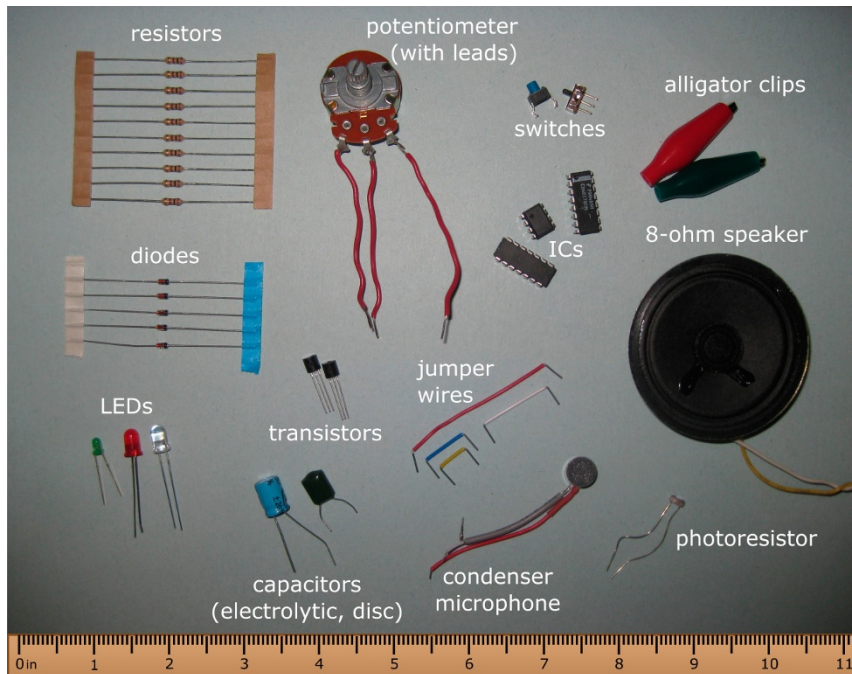

Figure 2-6: A sampling of the electronic components used in the experiments and projects in this book.
In the list that follows, I sometimes specify a product code (identified by #) and price (as of this writing, in mid-2015). I do this just to give you an idea of what to look for and roughly how much you should expect to pay. Because multiple options are usually available, feel free to shop around. Here's your shopping list of electronic parts, most of which are shown in Figure 2-6:
- ✓ **Attach leads to the potentiometers.** This step involves cutting three short lengths (2–3 inches each) of 22-gauge solid wire for each potentiometer, stripping both ends of each wire, and soldering the stripped leads to the potentiometer terminals (refer to the top row in Figure 2-6). See Chapter 15 for detailed instructions on soldering.